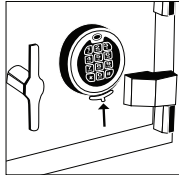

Figure 3
3. Insert the connected 9 volt battery fully into the battery housing and replace the battery cover (Figure 3).